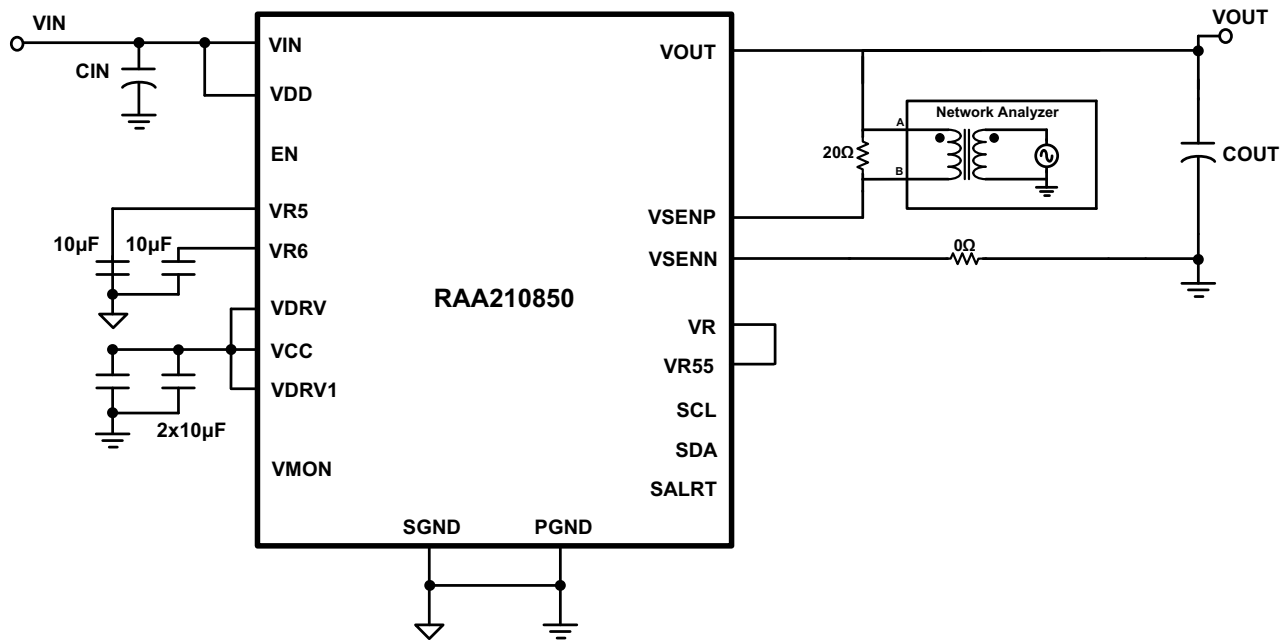

Figure 2. Schematic for Evaluating a Converter Loop Response
- (1) Break the feedback loop by removing the R₁₀ resistor in remote sense path, connected between VSENP and VOUT.
- (2) Solder a 20 Ω resistor in its place. The value of the resistor could be in the range 10 Ω to 50 Ω .
- (3) Solder a twisted wire pair to the 20 Ω resistor. Ensure that the wires are short in length. A small twisted pair works well by minimizing noise pickup, which is important for a good measurement.
- (4) Enable the converter.
- (5) Use a Network Analyzer to inject a small AC signal (~20mV) across the 20 Ω resistor as shown in Figure 2 on page 7.
- (6) Measure the amplitudes of the signals at points A and B as shown in Figure 2.
- (7) Sweep the frequency using the Network Analyzer to observe the bandwidth and the phase and gain margins.